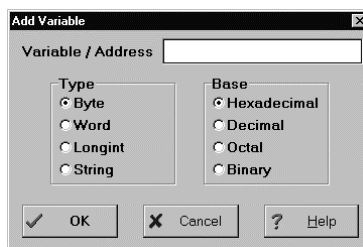

Figure 6-7. Add Variable Dialog
- **Add Variable:** Choose this option to open the *Add Variable* dialog (Figure 6-7) to add a variable or address to the current variable list. Select the variable type (size) and base. You can also add a variable by entering the VAR command in the ICS05JW Status Window command line.
You may enter values for commands in the simulator as either labels (which you have defined in the map file or with the SYMBOL command), or as numbers. You may specify the base in which variables are shown using the options in the *Add Variable* dialog (Figure 6-7). The default number format for the ICS05JW is hexadecimal.